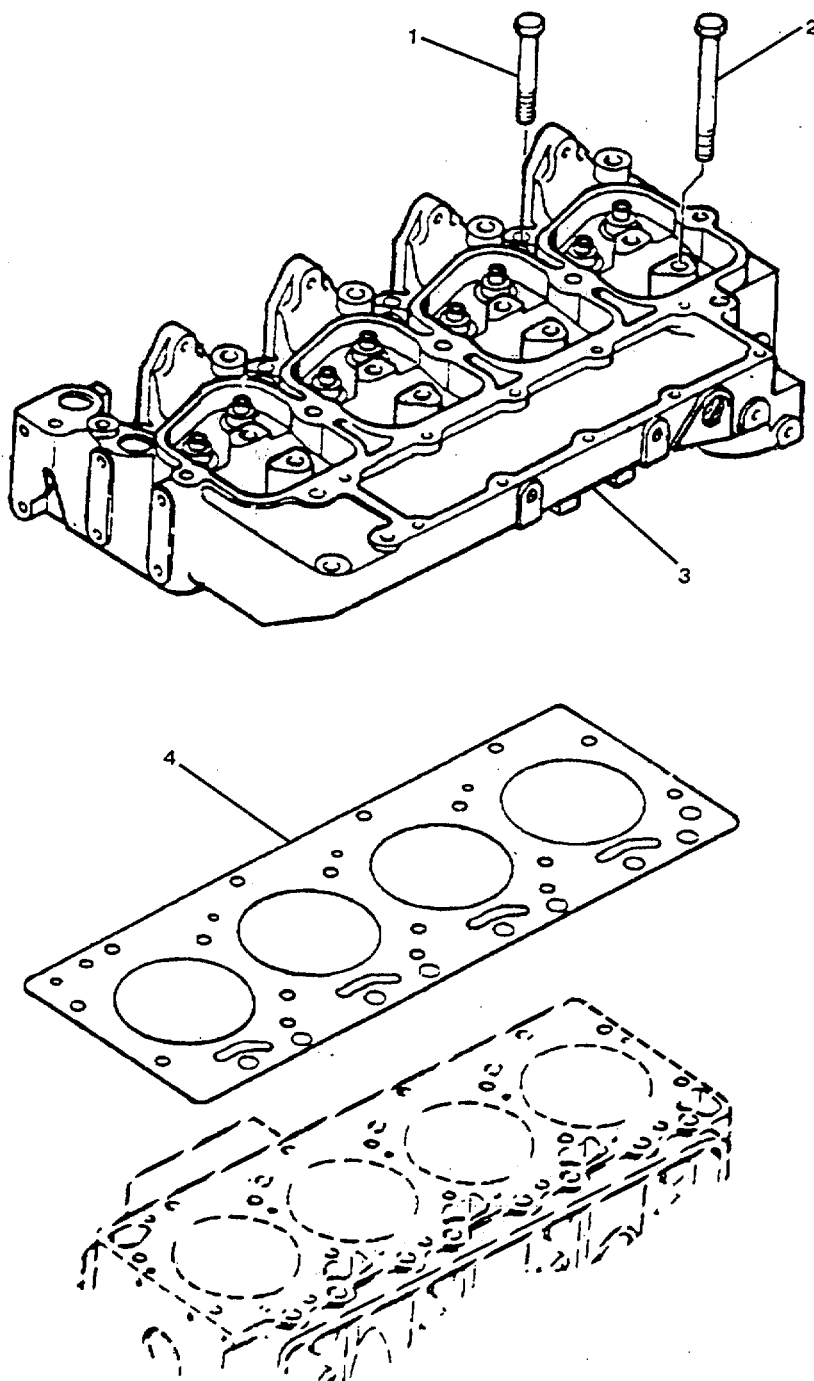

FIGURE 2-41. Cylinder Head.
- a. Remove the remaining 14 head bolts (1, 2, FIGURE 2-41) working from the center to the ends of the cylinder head.
- b. Remove cylinder head (3). Weight 80 lb (36 kg).
- c. Remove cylinder head gasket (4) from the block. Discard gasket.